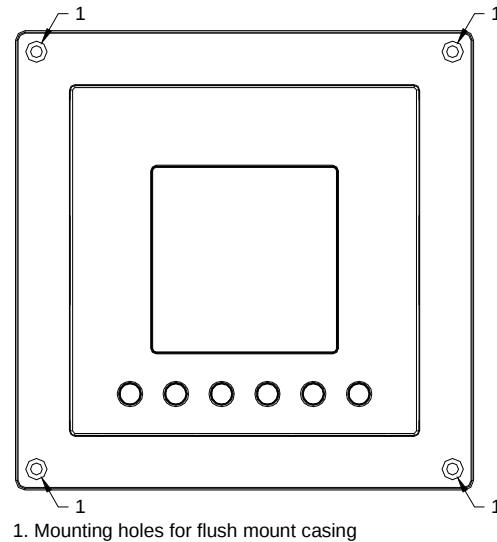

Figure 9: Mounting Holes for Flush Mount Casing
3. Position the Display in the opening of the enclosure cover and then transfer the position of the four mounting holes to the cover (Figure 9).